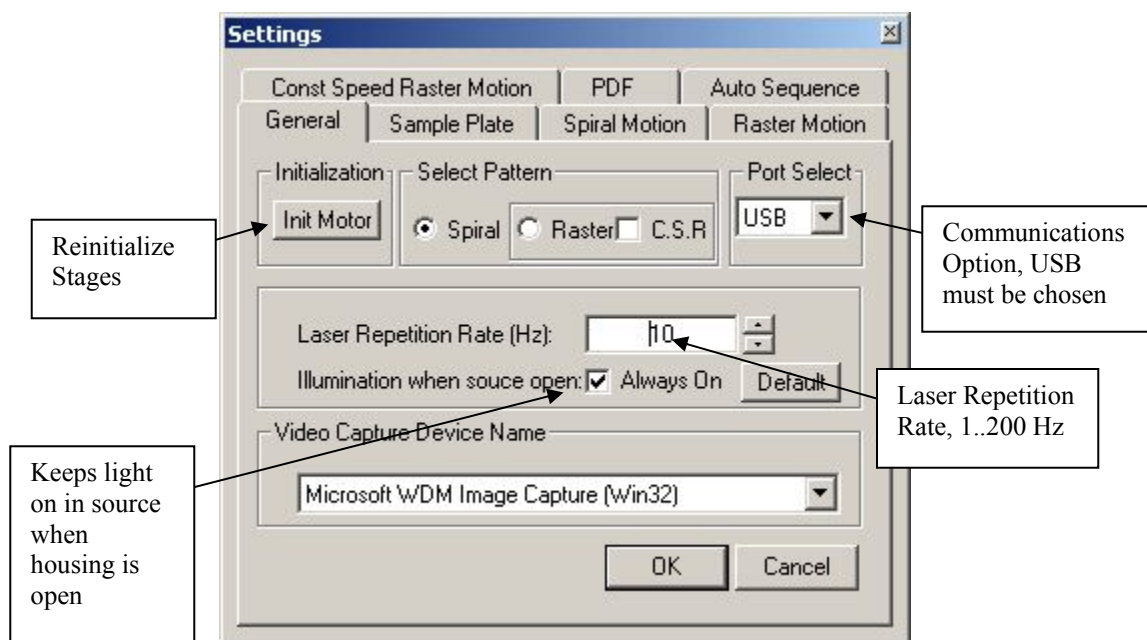
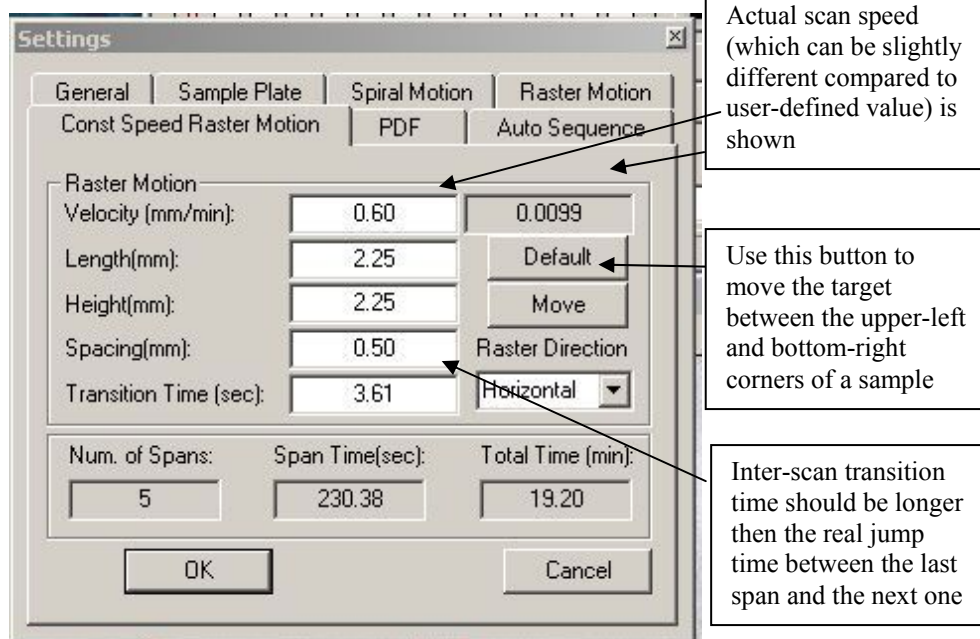

Fig. 7-13 General settings in the Target software.
Fig. 7-14. Constant Speed Raster Motion control page.
To change various program parameters like, spiral/raster motion properties, laser frequency, AutoSequence Mode timing and so on, click the "Settings" button and edit the parameter(s) as it is shown in Figs. 7-13 to 7-18, below.
There are three different sample plate patterns that can be selected during MS data acquisition to desorb fresh regions of sample surface by laser radiation: Spiral motion (selected in Fig. 7-13) and two different Raster patterns – Raster Motion and Constant Speed Raster Motion (C.S.R. control in Fig. 7-13 checked/unchecked). The parameters of the Patterned Motion can be adjusted using the three separate pages of the Setting dialog: Spiral Motion; Raster Motion and Constant Speed Raster Motion, correspondingly. Spiral or Raster motion can be used if the acquisition of long enough MS signal is desirable (for signal accumulation, relatively weak MS/MS data recording etc.). Raster/C.S.R (Constant Speed Raster) motion is designed for special applications like recording of AP MALDI images. For MALDI imaging, smooth target plate motion with constant speed is important. Another important feature of Constant Speed Raster Motion is the possibility of precise calculation of xy-coordinates of exposed position (WHERE the spectrum was recorded) based on the time elapsed from the Motion start (“retention time”, WHEN a spectrum was recorded). This feature enables the conversion of recorded mass-chromatogram into a two-dimensional plot of a particular peak intensity distribution (MS image). In Fig. 7-14, Constant Speed Raster Motion page of Settings dialog that controls the mode is shown.
- Laser pulse energy and frequency may be easily tuned through Target software (see Fig. 7-13 and 7-17). Typically you should tune the attenuation for the maximum signal only once, for every matrix type (α -CHC, DHB and so on). Typically you should tune the attenuation for the maximum signal only once for every matrix type (α -CHC, DHB and so on). 4.5-5.5 mm is a typical attenuator setting for α -CHC; it is higher for DHB matrix.